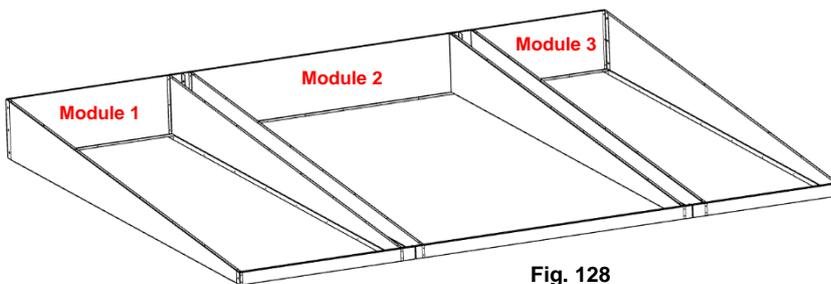

Fig. 128
3. Place the weather roof base frames according to the labels (Fig. 128)